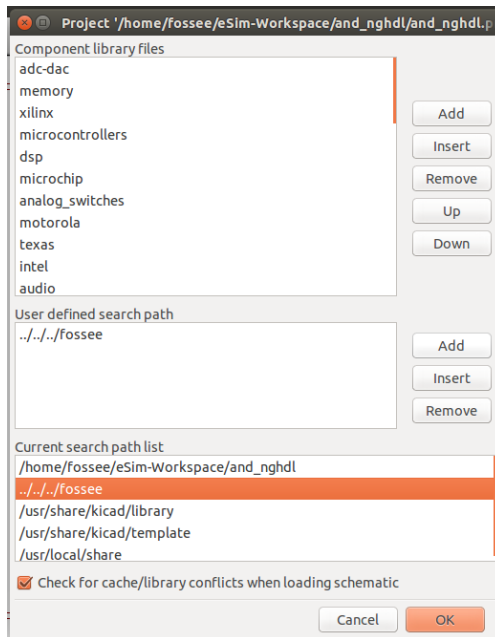

Figure 9.5: Selection of library
1. After uploading the model, you can create the schematic of your design by clicking on schematic editor button on the left pane of the main window. After then go to preferences option on top of the window and click on it to add the kicad model created in previous step, following window will appear as shown in figure Fig. 9.4, where you will have to click on Add button and select the *esim-kicad* library by browsing to the home folder. Refer Fig. 9.5.